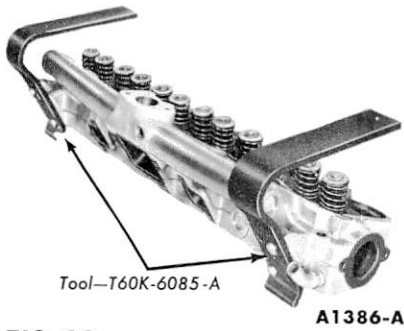

FIG. 30—Cylinder Head Holding Fixtures
1. Install the cylinder head holding fixtures (Fig. 30). Remove deposits from the combustion chambers and valve heads with a scraper and a wire brush before removing the valves. **Be careful not to scratch the cylinder head gasket surface.**